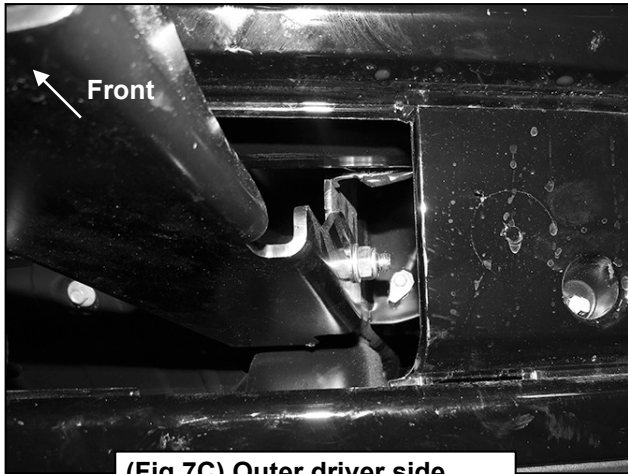

Fig 7A
4. Repeat **Step 3** to install the 12mm x 35mm Single Bolt Plate, (**Figure 7A**), into the remaining hole in the other side of the frame channel and Bracket, (**Figures 5, 7B & 7C**).